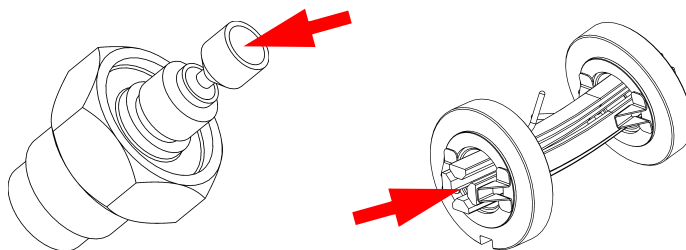

Figure 2-6. Stainless Steel Surfaces to Clean with Aluminum Oxide
2. Remove contamination from stainless steel surfaces (Figure 2-6). It is only necessary to clean surface that come in contact with the ion beam.